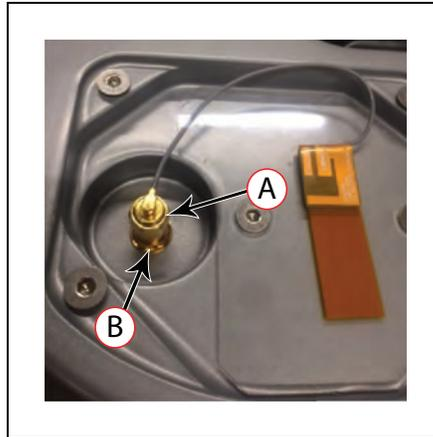

Figure 6-6. (A) Wireless Antenna Connector, and (B) Platform Wireless Connection
To connect the extension cable to the wireless antenna, simply unscrew the wireless antenna connector ((A) in Figure 6-6.), and screw onto the extension cable male connector. Then, connect the extension cable female connector to the platform wireless connection ((B) in Figure 6-6. For more information on how to access the wireless antennas, and disconnect from the connector, see: Wifi Antennas on page 249.